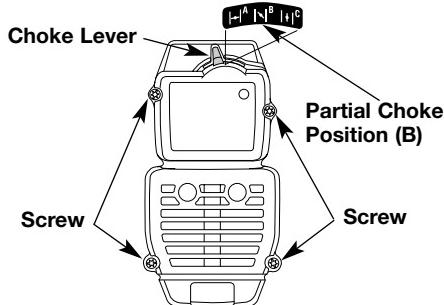

Fig. 30
1. Place the choke lever in the **PARTIAL** choke position (B).
**NOTE:** The choke lever must be in the **PARTIAL** choke position (B) (Fig. 30) to remove the Air filter/Muffler cover.
2. Remove the four (4) screws securing the air filter/muffler cover (Fig. 30). Use a flat blade or #20 Torx bit screwdriver. Pull the cover from the engine. Do not force.
**NOTE:** The choke lever must be in the **PARTIAL** choke position (B) (Fig. 30) to install the Air filter/Muffler cover.
2. Insert the four (4) screws into the holes in the Air filter/Muffler cover and tighten. Do not over tighten.
7. Reinstall the air filter/muffler cover, and screws (Fig. 30). See **Air filter/Muffler Cover Removal and Installation** section, Pg. 18.